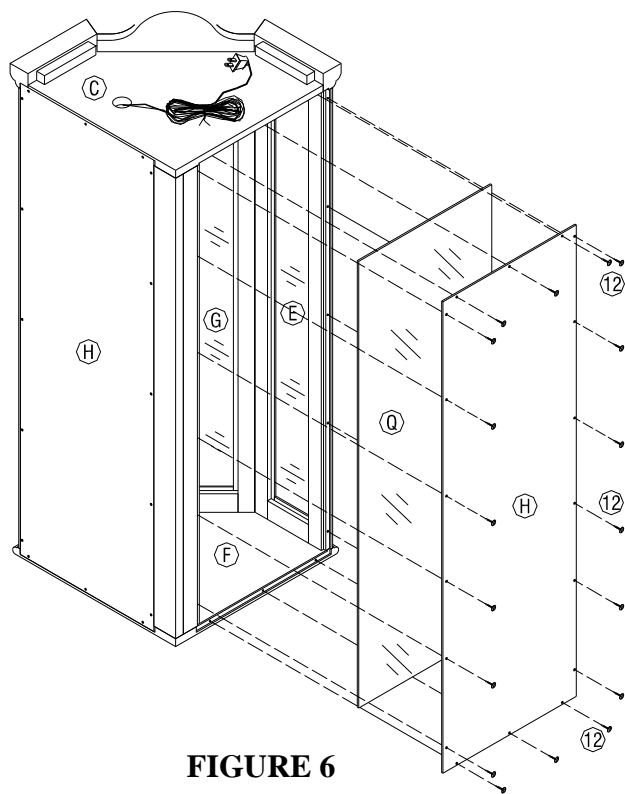

FIGURE 6
9. PLEASE BE CAREFULLY ATTACH LARGE BACK MIRRORS (Q) INTO GROOVES OF PARTS (A, B, C, D, E, F), AND ATTACH UPPER BACK PANELS (H) INTO SLOTS OF REAR EDGES OF PARTS (A, B, C, D, E, F). INSERT PAN HEAD WOOD SCREWS (12) THROUGH PREDRILLED HOLES ON UPPER BACK PANELS (H) AND TIGHTEN INTO CORRESPONDING HOLES ON REAR EDGES OF PARTS (A, B, C, D, E, F). AS SHOWN IN FIGURE 6.